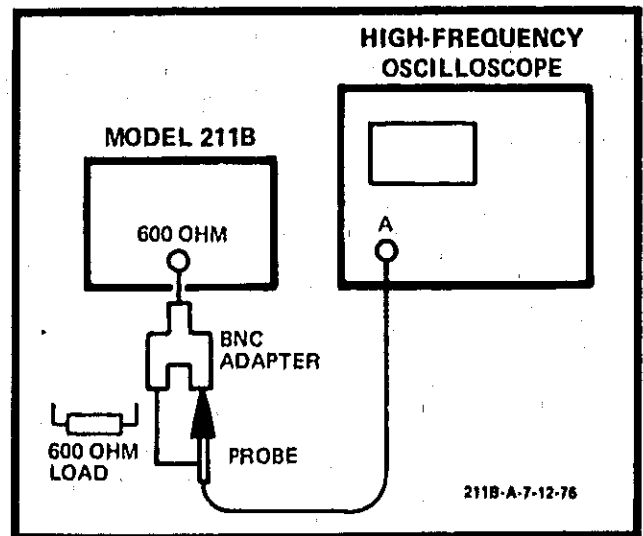

Figure 5-4. 600-ohm Output Test Setup
b. Connect equipment as shown in figure 5-4.